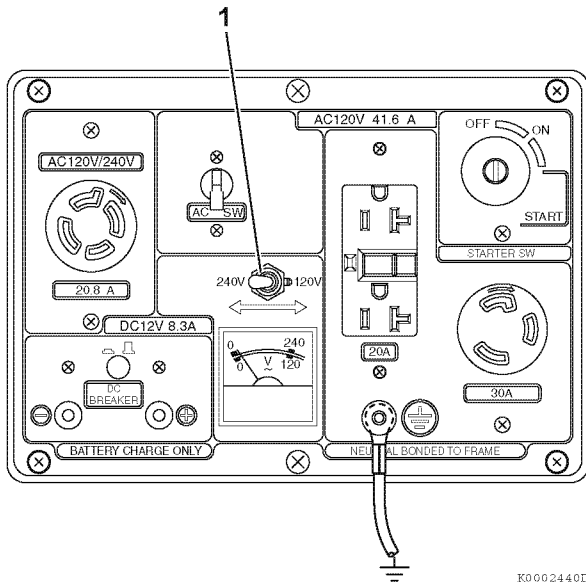

Figure 26
4. Before starting the engine, place the change-over switch (1, **Figure 26**) in the correct position for the rated voltage of the working appliances.